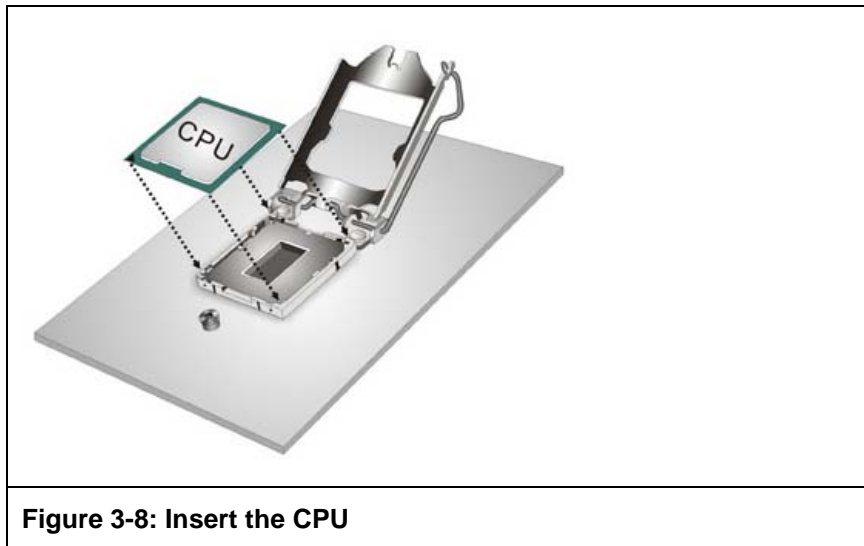

Figure 3-8: Insert the CPU
- Step 10: Insert the CPU.** Gently insert the CPU into the socket. If the CPU pins are properly aligned, the CPU should slide into the CPU socket smoothly. See **Figure 3-8**.